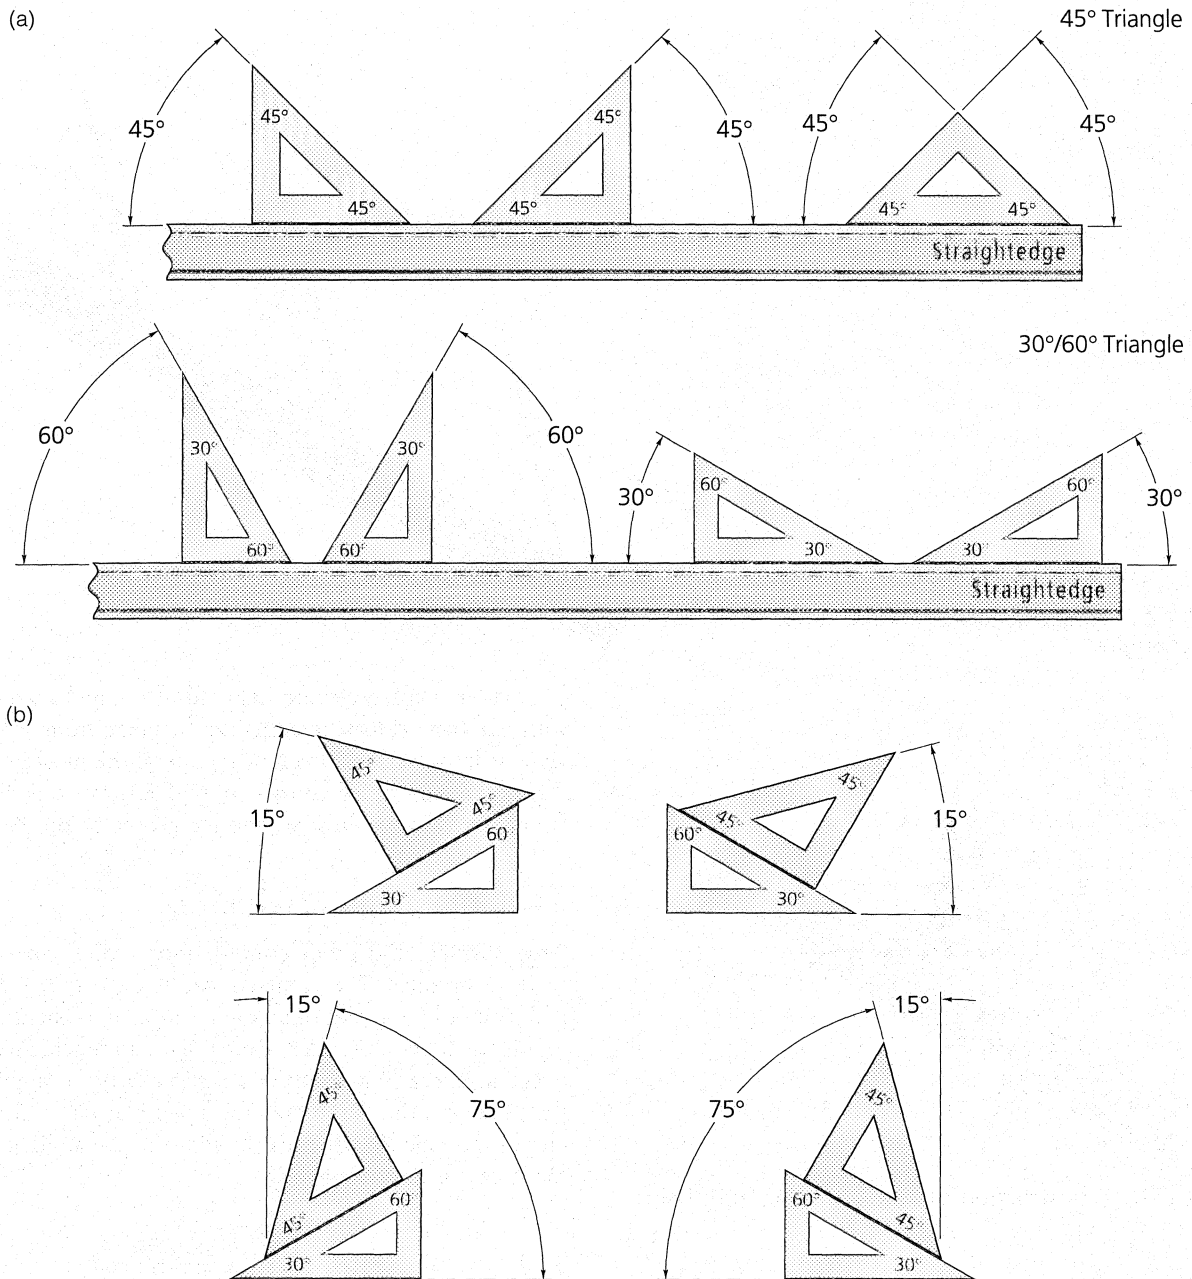

FIGURE 6.60 Drawing Sloping (Angled) Lines with Triangles
**Sloping lines** (angled lines) are drawn much like vertical lines except that the sloping edge of the triangle, adjustable triangle, or drafting machine is used. Lines that slope toward the upper right corner of the board are easily drawn. Sloping lines must first be accurately measured and laid out with construction lines. Check the angle with a protractor before darkening. Figure 6.60 shows how to use a 45° triangle and a 30°/60° triangle to draw a variety of angles when used singly and together. Separately or in combination, the two triangles can achieve any 15° angle increment—15°, 30°, 45°, 60°, 75°, or 90°.